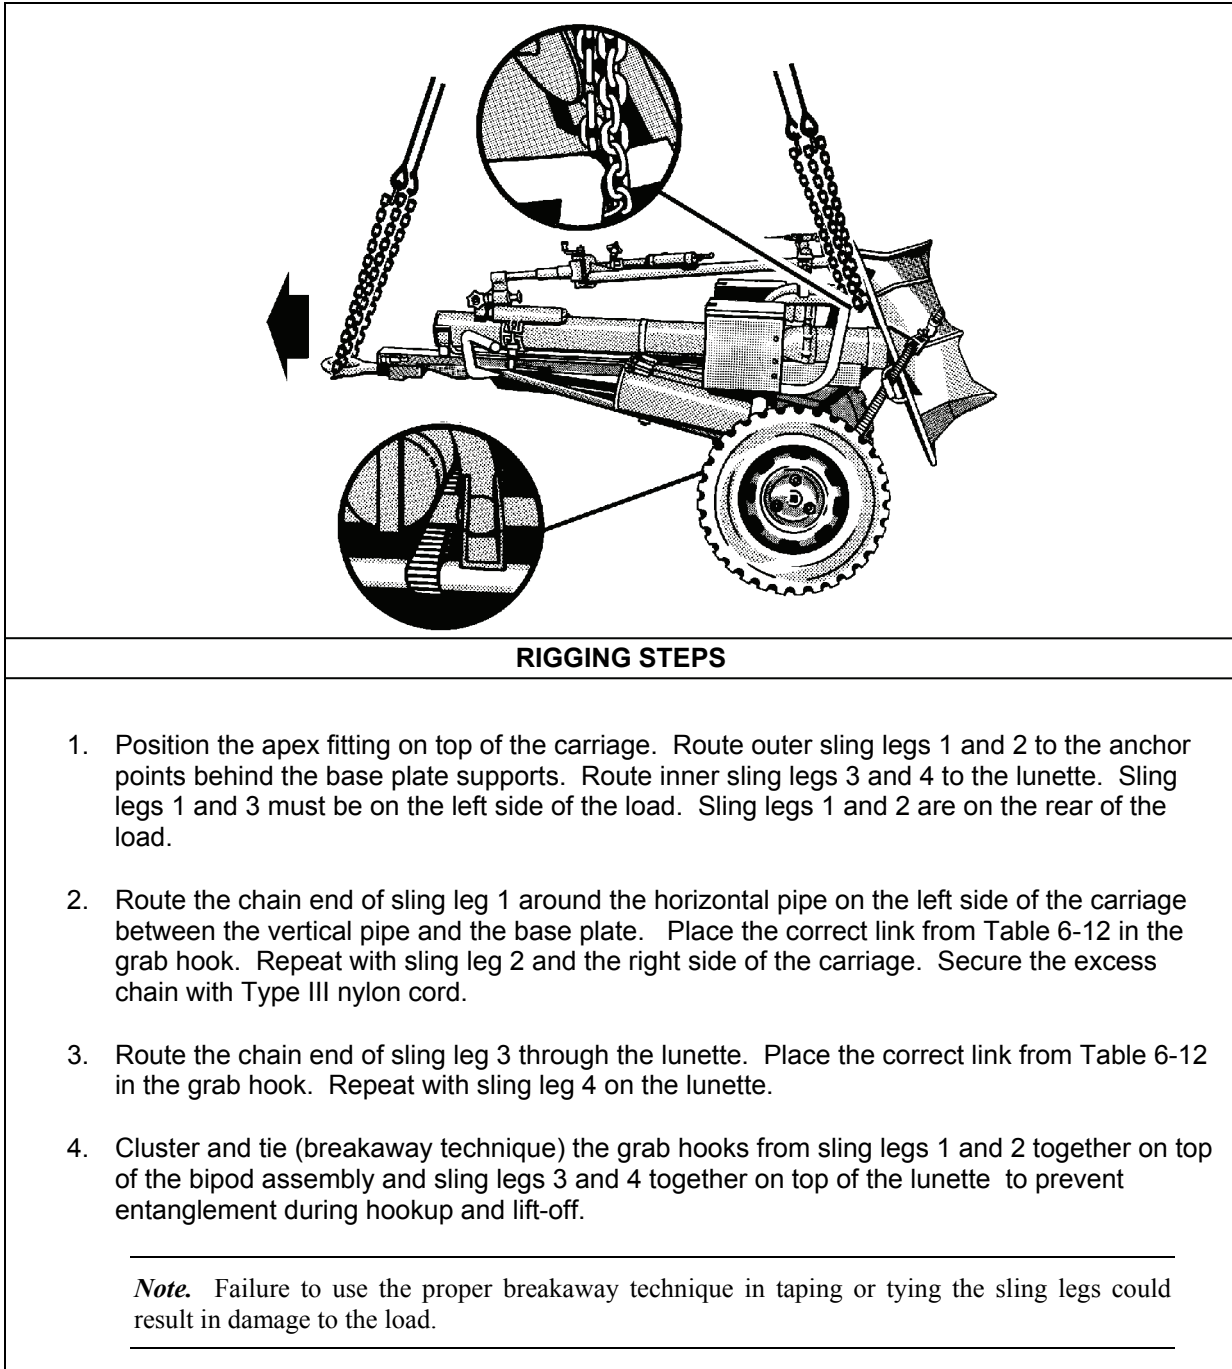

Figure 6-12. BMS-120 Battalion Mortar System
- **Rigging.** Rig the load according to the steps in Figure 6-12.